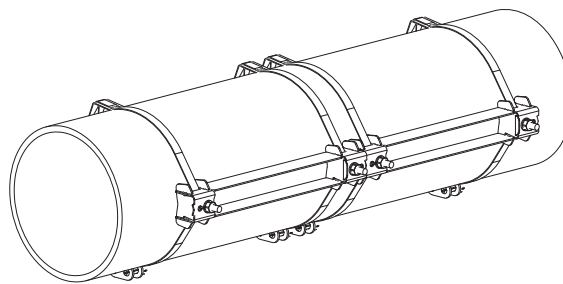

Fig. 9.26: Pipe with two rails
- Repeat the steps for fixing the second rail (see Fig. 9.26).